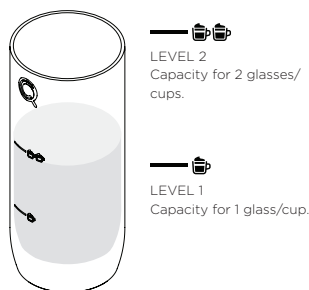

Fig. 19: Pour milk into the milk tank.
- Pour milk into the milk tank according to the desired amount (see **Fig. 19**).